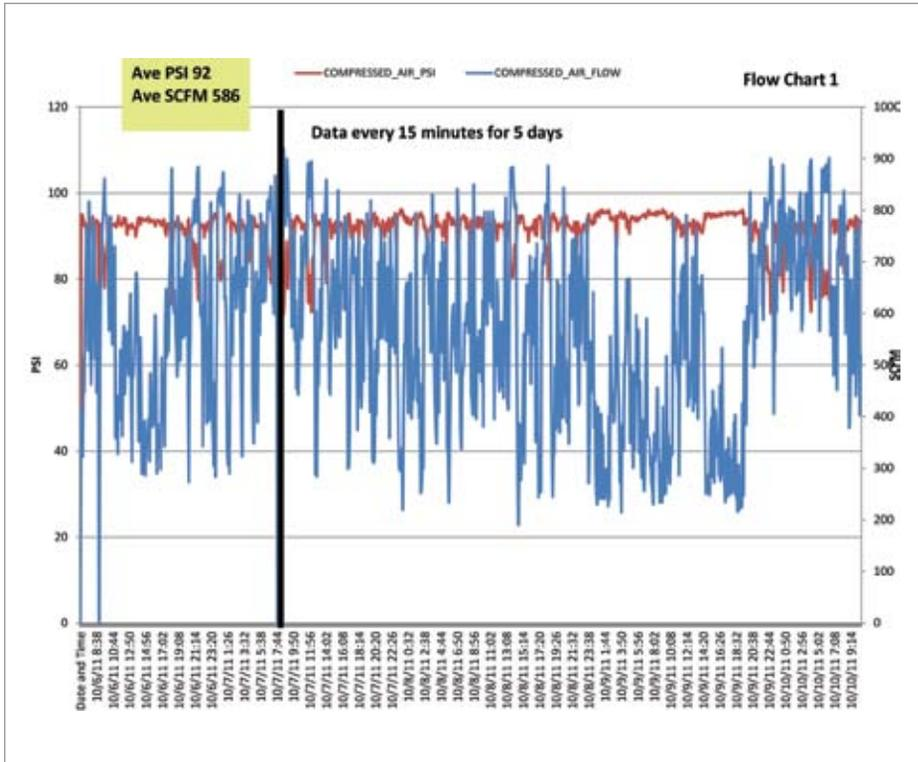

Figure 6. Flow Chart 1 represented an average flow of 586 scfm at 92 psig.
- Flow Chart 1 (Figure 6) represented five days of measurement with data points plotted and averaged every 15 minutes. Conclusion: an average flow of 586 scfm at 92 psig. There are apparent short duration flow peaks up to about 900 scfm.
Figure 6 shows a system which exhibits a control gap between the variable speed compressor and one base-load compressor. In this system there was one fixed speed 350 hp compressor, one variable speed 350 hp compressor, and one 200 hp fixed speed compressor. This system did not have a master controller for all the compressors. Figure 6 highlights a period where the medium load unit (200 hp fixed speed compressor) was operating fully loaded. This consequently resulted in multiple periods where the variable speed compressor and the same sized base-load compressor were cycling between load and unload together producing a fluctuating pressure of 8 psi and an uncharacteristically high specific power (kW / 100 cfm) for the facility.